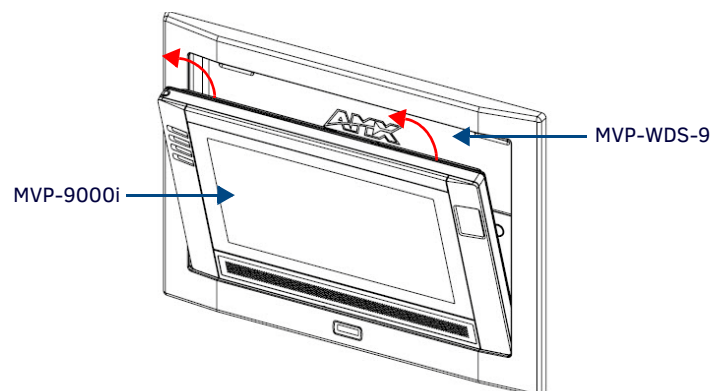

FIG. 19 Ejected position for the MVP-9000i
3. To release the touch panel, unlock the touch panel and wait for the Wall Docking Station to pivot the touch panel away from the wall (FIG. 19).
5. When disconnecting from a Wall Docking Station, wait for the Wall Docking Station to pivot the touch panel away from the wall (FIG. 19).